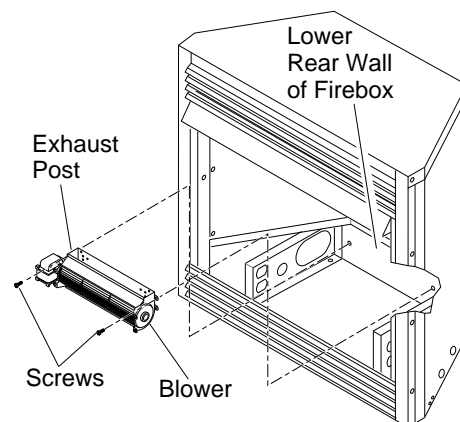

Figure 9 - Mounting Blower to Firebox
2. Place the blower against lower rear wall of firebox outer wrapper with the exhaust port directed upward. Align the holes in top mounting tabs of blower with holes in wall of wrapper (see Figure 9). Using 2 screws provided, mount blower and tighten screws securely.